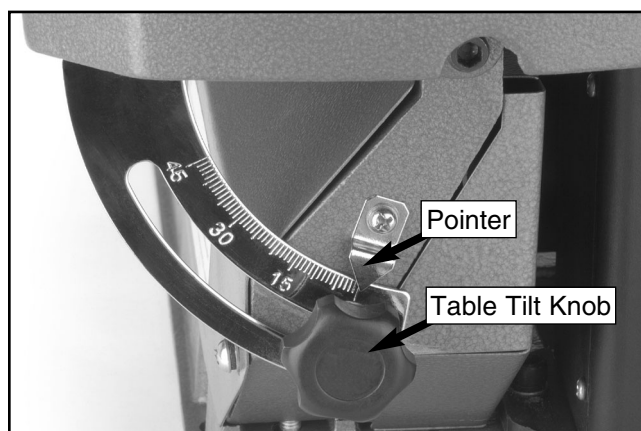

Figure 17. Pointer and table tilt knob.
2. Loosen the table tilt knob shown in **Figure 17**.
5. Tighten the table tilt knob, loosen the pointer shown in **Figure 17** and adjust it to 0°.